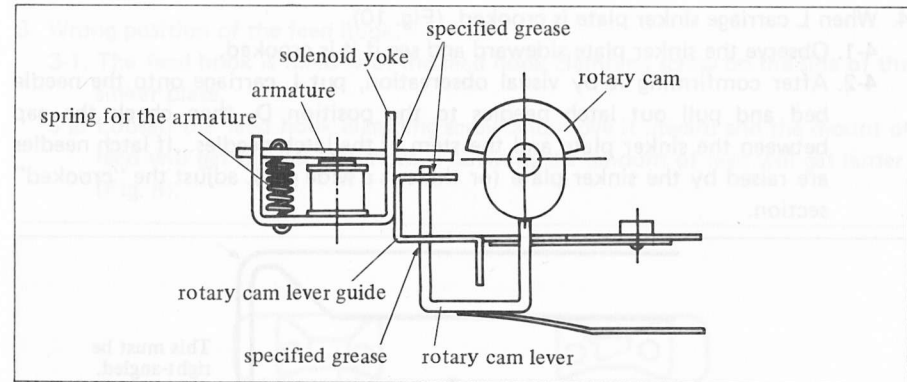

Fig. 12
- 2-2. Squeezed between the rotary cam lever and the rotary cam lever guide, the rotary cam lever does not move smoothly. (Fig. 12).